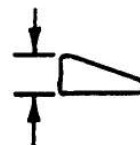

Figure 19
- (5) **UNDERDRIVE/OVERDRIVE REACTION PLATES** - The underdrive/overdrive Reaction Plates have always been available in 4 different thicknesses to adjust the Underdrive Clutch to proper specifications. For 1990, each plate was reduced in thickness by .040" to accommodate the new tapered snap ring location. Refer to the chart in Figure 18 for both 1990 and up selective reaction plate sizes with part numbers. The actual dimension change that took place can be seen by measuring just the lug thickness of the reaction plate. The 1989 reaction plate had a lug thickness of .196". When the tapered snap ring groove was moved down .040" in the Input Clutch Retainer to accommodate the extra lined and steel plate in the Overdrive Clutch pack, the lug on the reaction plate was also reduced by .040" making the lug thickness .156" (See Figure 19). Then in 1993, the reaction plate had a redesign where a relief cut was placed across the top of the lug making the lug thickness .141". This was done to accommodate a change made to the tapered snap ring. Refer to the tapered snap ring changes on the following page and Figure 19. The selective drive/overdrive reaction plate chart in figure 18 for 1990 and up, provide part numbers for this new style reaction plate to be used only in 4 overdrive clutch drums. An updated tapered snap ring is included with each selective plate.
(6)UNDERDRIVE/OVERDRIVE TAPERED SNAP RING - The thickness of this snap ring was originally .070" in thickness and could be easily recognizable as the snap ring would be Blue in color (See Figure 19). When the extra lined and steel plate was added to the overdrive clutch pack, the thickness of this snap ring was reduced by .010" because the friction that laid along side of this snap ring was also reduced in thickness as explained on the previous page. The 1990 snap ring for the 4 overdrive clutch pack became .060" in thickness and could be easily identified with either Green or White paint. In 1993, this tapered snap ring went from .060" in thickness to .075" to prevent excessive snap ring breakage. The color black was originally used to identify this .075" tapered snap ring but was soon changed to white due to a material change in the snap ring. This snap ring has also been known to be either Green or Blue in color. Caution should be used when selecting an underdrive/overdrive tapered snap ring as color identification may be confusing and none of these tapered snap rings can be interchanged. The .070" tapered snap ring is only used in the 3 overdrive clutch drum with a reaction plate that has a lug thickness of .196". The .060" tapered snap ring was used in 4 overdrive clutch drums with a reaction plate that has a lug thickness of .156". The .075" thick tapered snap ring is an update to the 4 overdrive clutch drums ONLY and should ONLY be used with reaction plates that have a lug thickness of .141" (See Figure 19).